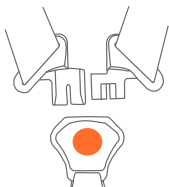
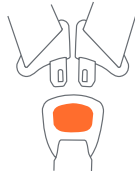

Fig. 37-1
Fig. 37-2
- Type A: Put the two buckle tongues together, overlaying the left buckle tongue onto the right buckle tongue, and insert the two joined buckle tongues into the harness buckle on the crotch strap (Fig. 37-1). Type B: Insert each buckle tongue into the harness buckle (Fig. 37-2).